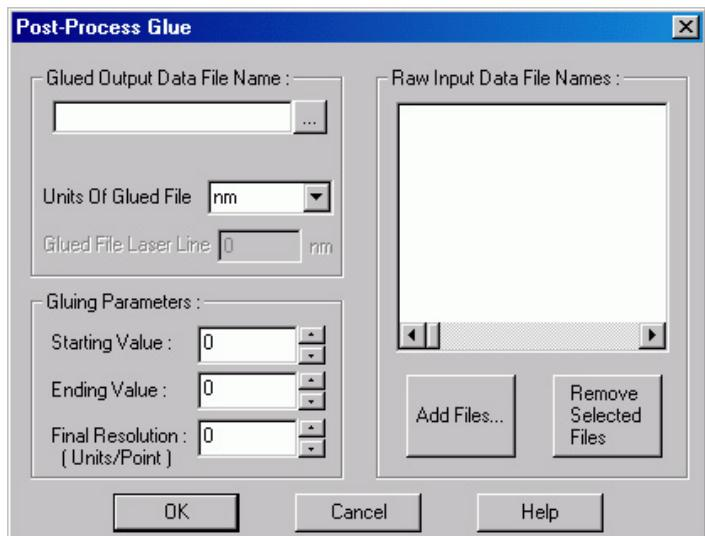

Figure 132. Post-Process Glue dialog box
2. From the Process menu select **Glue**. This will open the Post-Process Glue dialog box (Figure 132). *For more information, see the online Help for this dialog box.*